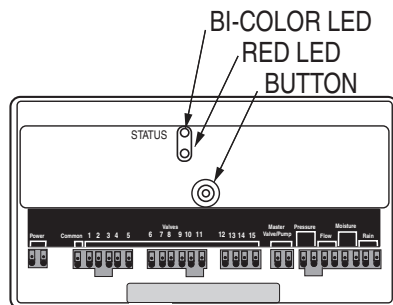

Figure 8. LED Status/Button Location
1. Pushing the button on the WI15VZ-1, will get the Irrigation Controller to associate with the Z-Wave hub (Figure 8).